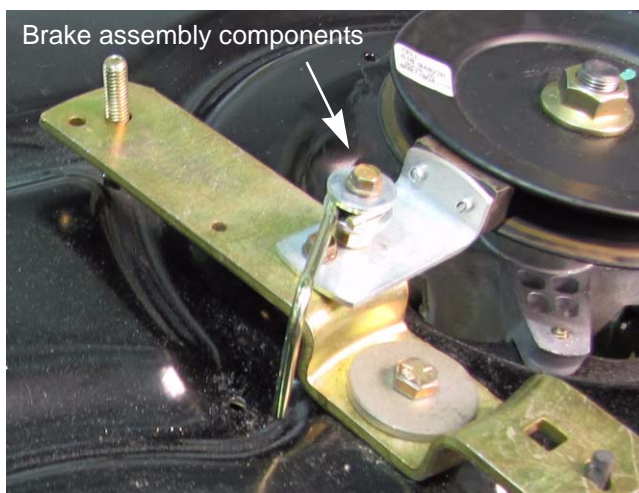

Figure 8.27
3. In this example you can replace the right side brake puck by removing the 1/4 -20 screw that aligns the brake assembly with the pivot bracket and pulley. See Figure 8.27.